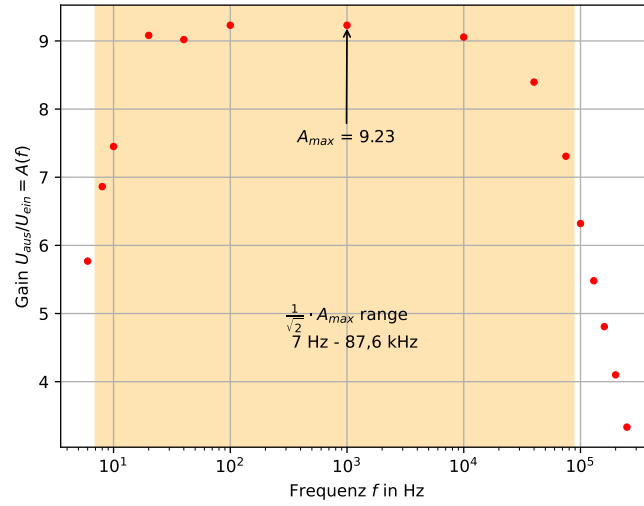

Figure 8: Amplitude response for different frequencies
$$u_{re} = (1 + \beta) i_b R_E \quad \text{see [1, figure 8 and formula (24)]} \quad (10)$$
Another important characteristic of a transistor is the frequency response. Therefore the amplitude and phase response is plotted in figure 8 and 9. Therby the amplidude response behaves like a high pass filter from 0 -  $10^3$  Hz and like a low pass filter from  $10^3$  -  $10^6$  Hz. The section of frequencies, where  $|A| \geq \frac{1}{\sqrt{2}} \cdot |A_{max}|$  is also shown in figure 8. The phase reponse is calculated with the measured data on page 5 of the appended pdf with measurement data. If  $t$  is the time shift between input and output in microseconds and  $f$  is the frequency the phase shift is calculated with